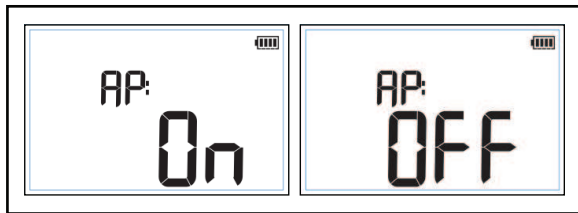

Figure 5. Auto-Off Power Setting
2. Push **ENTER** until **AP**: shows on the display. See Figure 5.